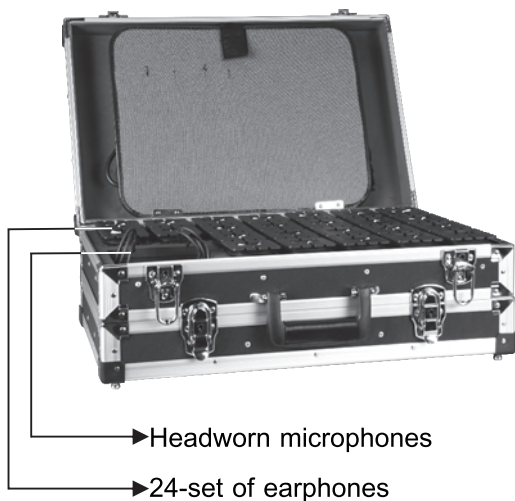

Fig. 31
4. MTG-100C-28 Earphones and Headworn Microphones Storage, Fig.31: